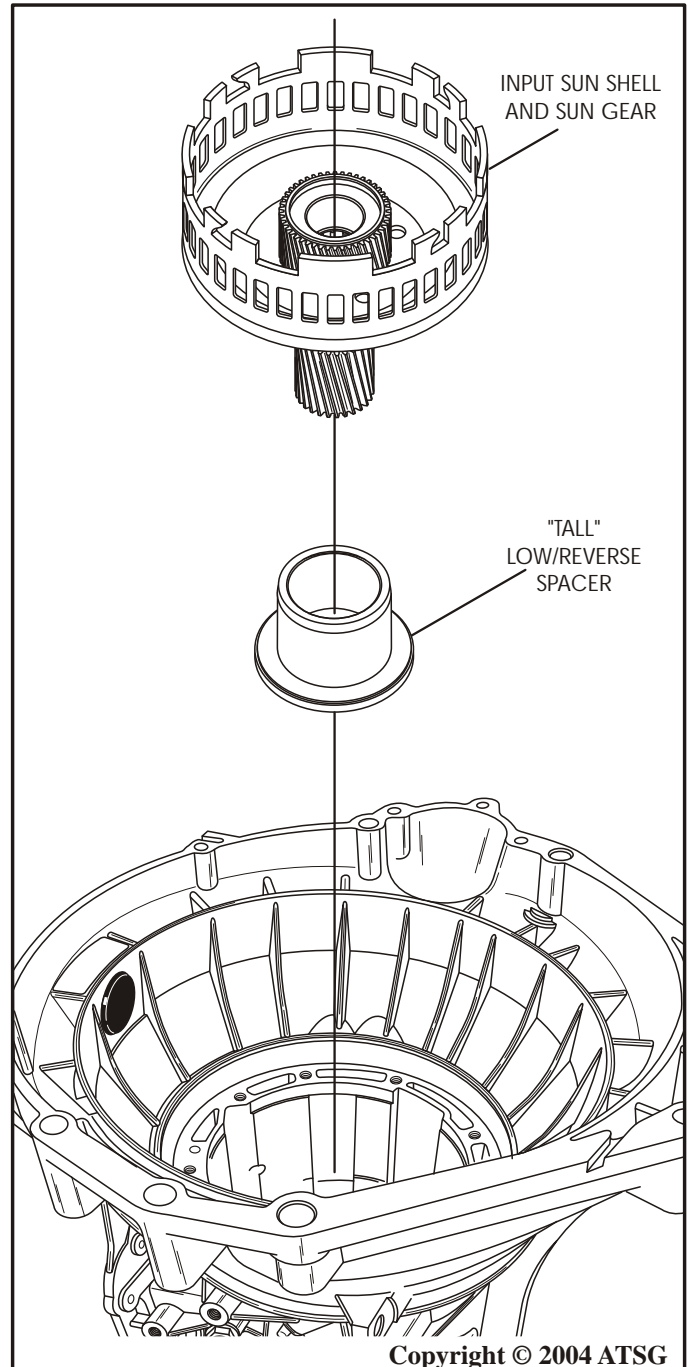

Figure 46
48. Remove the input sun gear and shell assembly, as shown in Figure 46.
49. Remove the low/reverse bearing spacer from transmission case, as shown in Figure 46.